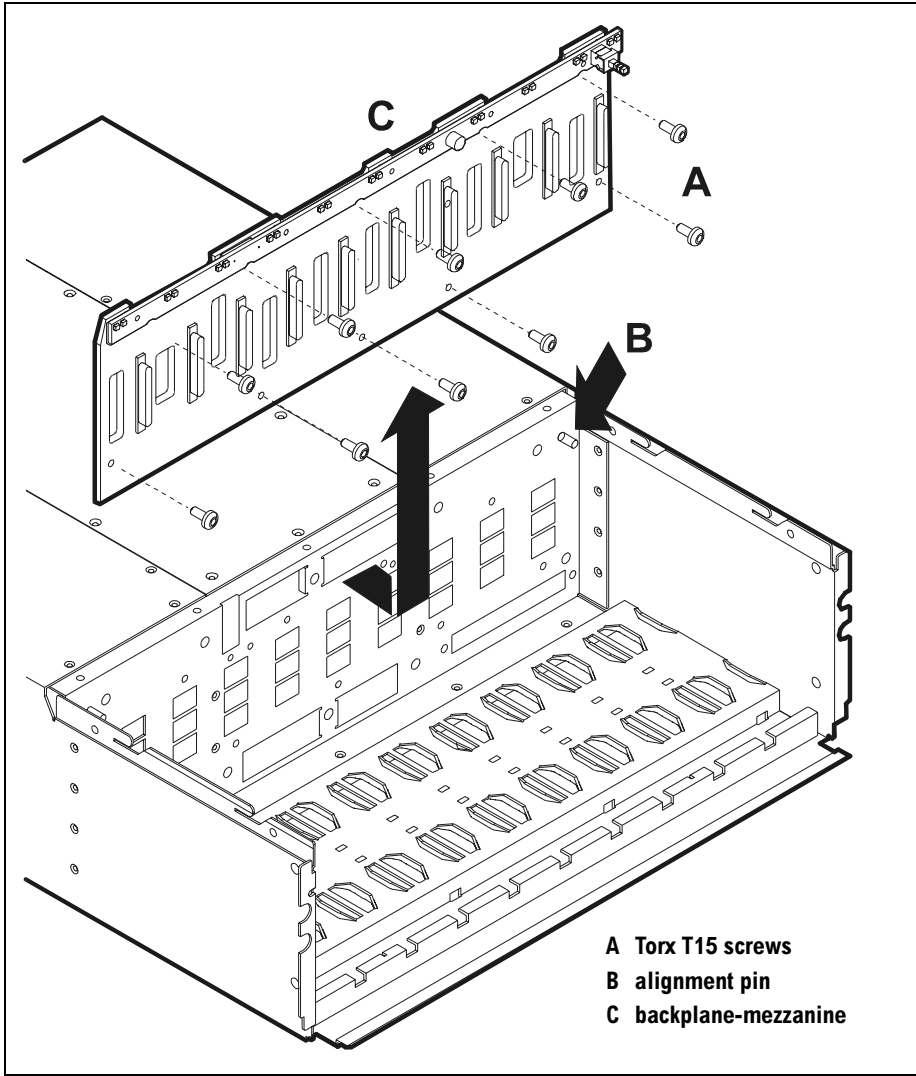

Figure 50 Backplane Assembly
- c. Remove the ten Torx T15 screws along the top and bottom edges of the backplane (see Figure 50).
- d. Pull the backplane forward to clear alignment pins (B) and lift backplane up and out of the disk system.
- a. Stand the new backplane inside the chassis and push it over the alignment pins (B in Figure 50). Connectors automatically align with floating fan connectors inside the chassis.